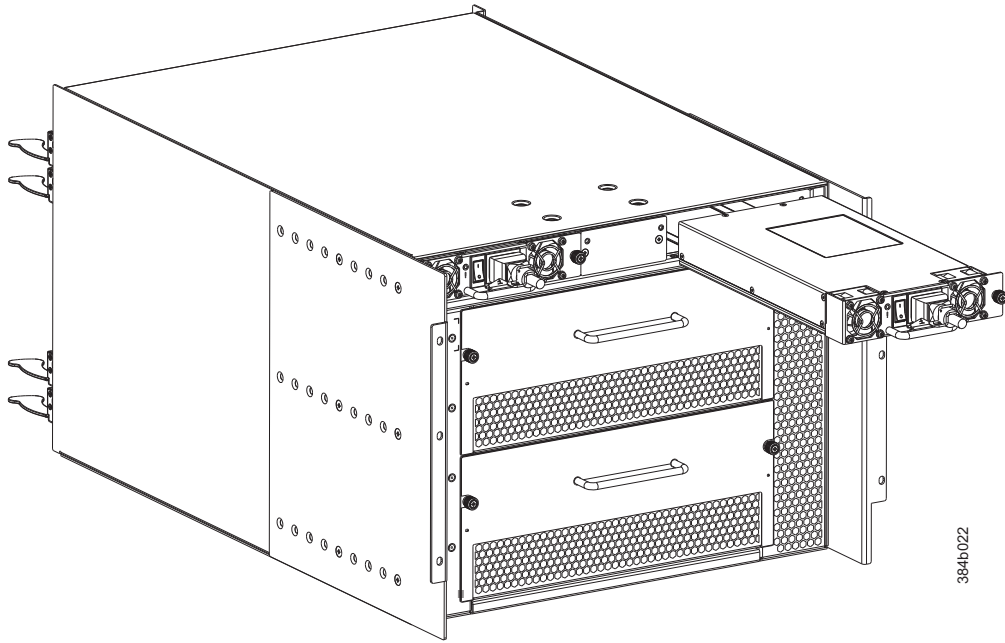

Figure 40. Removing and installing a power supply
5. Grasp the handle and pull, sliding the power supply from the chassis (see Figure 40 on page 90). Support the power supply from beneath as you remove it.